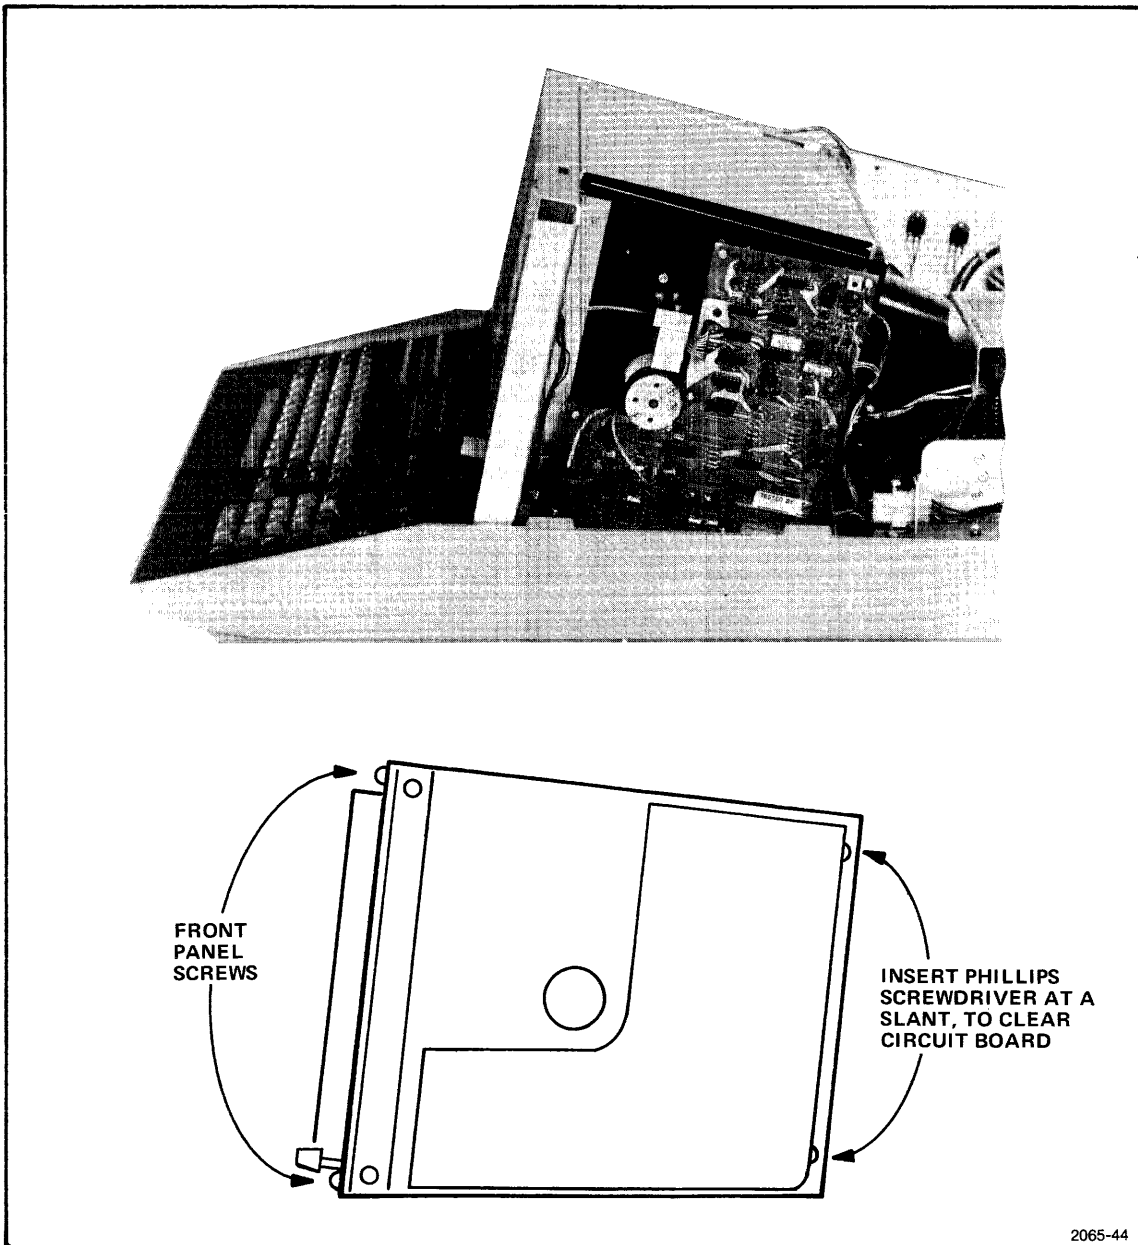

Fig. 3-26. Tape unit assembly with pointers to the mounting screws.
2. Remove the two Phillips screws on the right front of the 4051, one just above the BUSY indicator light, the other just below the EJECT button (Fig. 3-26).
3. Remove the two Phillips screws on the mag tape assembly (also shown in Fig. 3-26). Remove all connectors, and then slide the unit back and up, allowing the EJECT button to be drawn through the front panel.